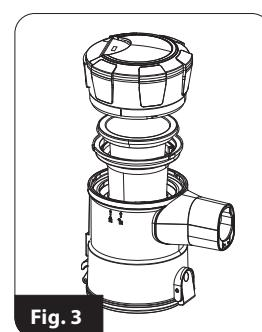

Fig. 3
3. Remove the motor filter (11) and the mesh filter (12) from the dust container – (fig.3).